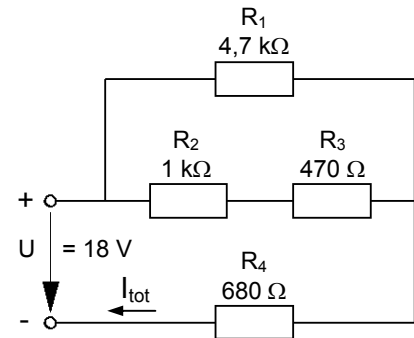

Fig. 3.9.2.3: Resistor network 2
- Assemble the circuit of Fig. 3.9.2.3 on the Electronic Circuits Board. Ensure that all measurement points for voltage and current, are easily accessible (assembly notes will be found in section 3.9.4).